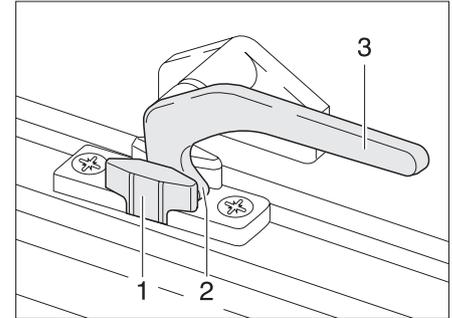

Fig. 26 Catch lever in the "continuous ventilation" position
- "Continuous ventilation" (Fig. 26)
- ▶ Turn the catch lever (Fig. 26,3) a quarter turn towards the centre of the window.
- ▶ Turn the catch lever a quarter turn towards the window frame. The locking catch (Fig. 26,2) has to be moved into the recess of window catch (Fig. 26,1).